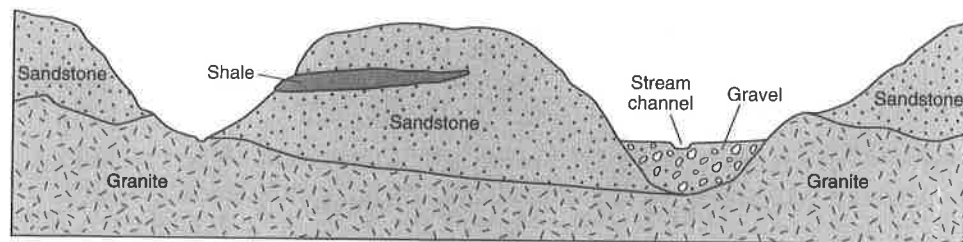

Figure 67. Geologic section with rocks of differing permeability in a humid climate.
Figure 67 is a geologic section on which are indicated several rock types with differing permeability.
- iv. Draw in on Figure 67 the position of the main water table. Indicate the location of any perched water tables and springs.